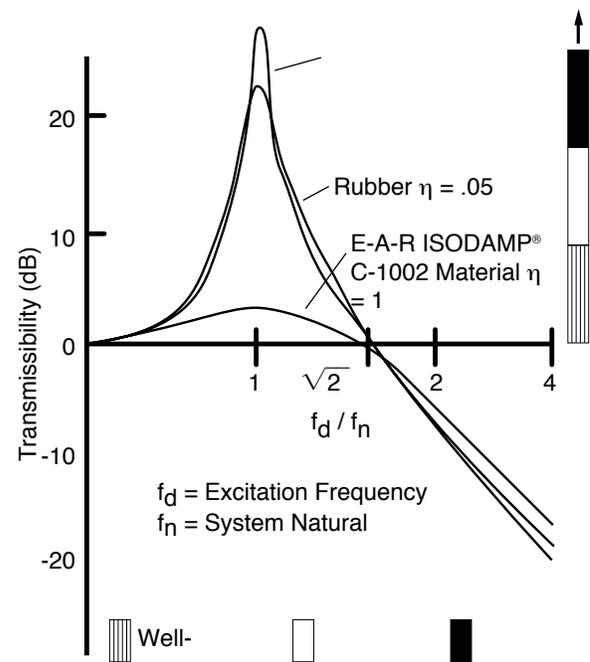

Figure 5: Transmissibility of Isolation Materials with Different Loss Factors. Loss Factor (η) is a Measure of Damping
Figure 5 plots the transmissibility characteristics of several types of isolation materials. The shaded bands on the right-hand side of the figure indicate that transmissibility of less than about 6 dB at resonance can be considered well-controlled; between 7 and 15 dB is conditional and may cause malfunctions, and above 15 dB can be damaging, depending on the input force levels involved. For reference, 6 dB is a magnification factor (X) of 2X; 10 dB is 3X and 20 dB is 10X. So, for example, if an isolated system has an amplitude at resonance of 10 dB, the vibration output forces are 3 times the input forces.